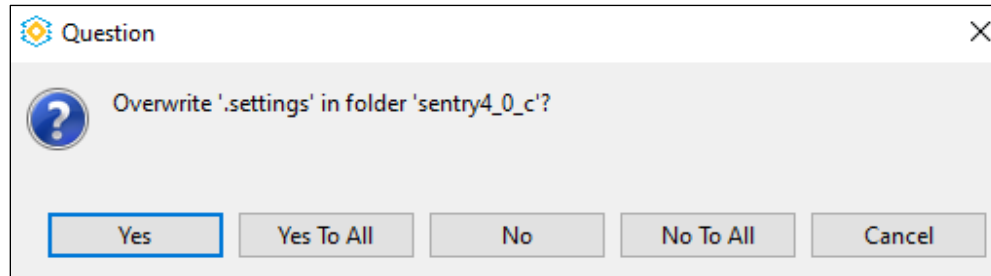

Figure 5.11. C Project Import Settings Question
8. When a dialog box pops up to ask about overwriting .setting, click **Yes to All** (Figure 5.11).